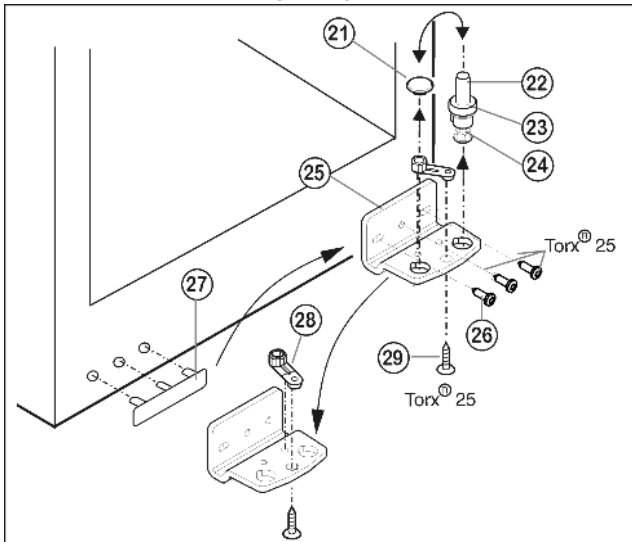

Fig. 6
- ▶ Lift out the bearing pin *Fig. 6 (22)* together with washer *Fig. 6 (23)* and foot *Fig. 6 (24)*.
- ▶ Lift off the stopper *Fig. 6 (21)*.
- ▶ Unscrew *Fig. 6 (26)* the turn hinge *Fig. 6 (25)*.
- ▶ Unscrew *Fig. 6 (29)* the bearing element *Fig. 6 (28)*, transfer it to the opposite location hole of the turn hinge and screw it firmly into place.
- ▶ Carefully lift off the cover on the handle side *Fig. 6 (27)* and transfer it to the opposite side.
- ▶ Screw the turn hinge *Fig. 6 (25)* firmly into place on the new hinge side, possibly using a cordless screwdriver (with 4 Nm).
- ▶ Re-insert the stopper *Fig. 6 (21)* into the other hole.
- ▶ Re-insert the bearing pin *Fig. 6 (22)* together with washer and foot. In so doing, pay attention that the locating lug points backwards